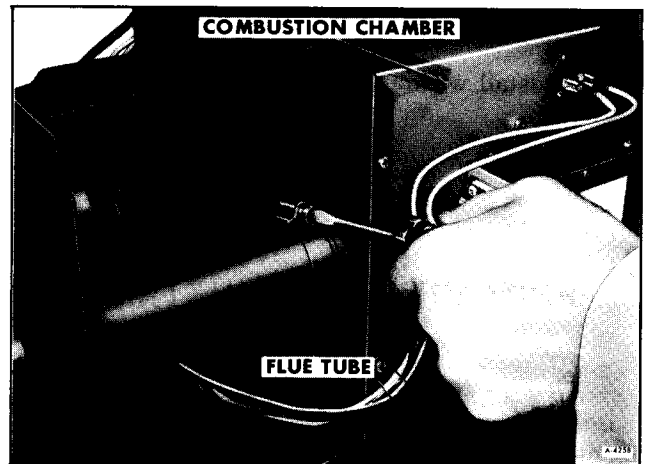

Figure 28—Disconnecting Flue Tube from Combustion Chamber
8. Disconnect flue tube from combustion chamber (See figure 28). Remove flue tube.
2. Connect flue tube to combustion chamber (See figure 28).